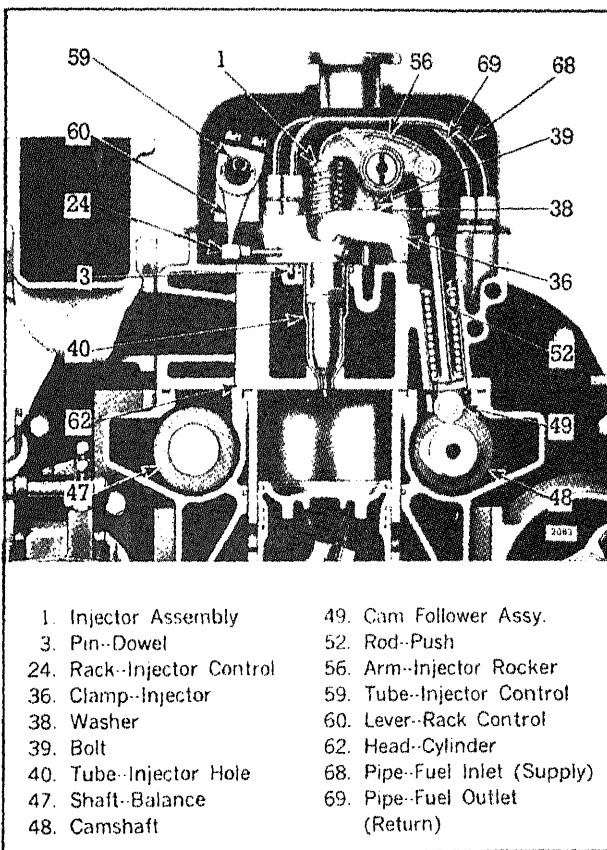

Fig. 6 - Fuel Injector Mounting
The motion of the injector rocker arm is transmitted to the plunger by the follower which bears against the follower spring (Fig. 6). In addition to the reciprocating motion, the plunger can be rotated, during operation, around its axis by the gear which meshes with the control rack. For metering the fuel, an upper helix and a lower helix are machined in the lower part of the plunger. The relation of the helices to the two ports changes with the rotation of the plunger.
2. Remove the fuel pipes from both the injector and the fuel connectors (Fig. 6).